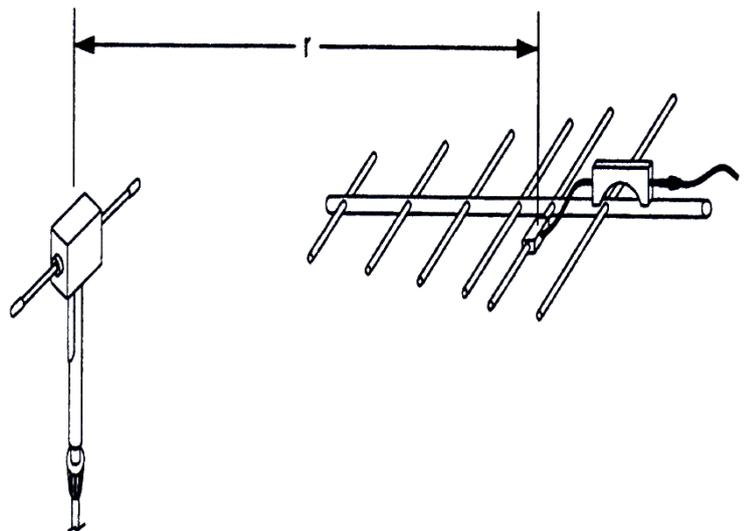

Figure 4. $\lambda/2$ dipole assembly.
4. Using the answer of your calculation choose the appropriate pair of wires to set the $\lambda/2$ dipole. Adjust the dipole length in accordance with your result, as shown in Figure 4.
9. Start the first acquisition. When it is completed turn OFF the RF power. Store the radiation pattern as the E plane of antenna (1). Orient the pattern so that the MSP (max. signal position) is at 0° .
11. Repeat the procedure for the pattern acquisition after you rotate the transmitting antenna (the Yagi) to the vertical position. Store it as the E plane of antenna (2).
12. Change the dipole antenna to the vertical position by using the mast with the horizontal clips. Perform another acquisition and store the pattern as the H plane of antenna (1). Use the same attenuation level.